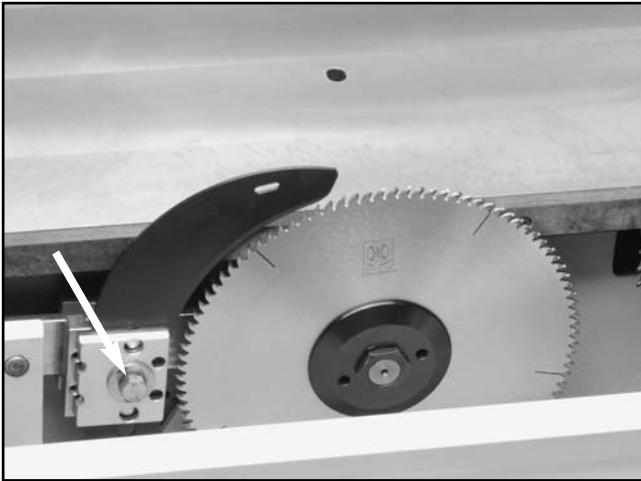

Figure 84. Center bolt in mounting assembly.
- Remove the center bolt (**Figure 84**) in the mounting assembly to remove the mounting plate.